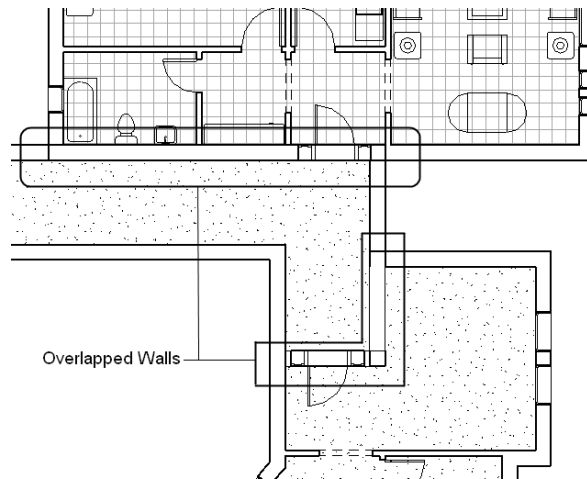
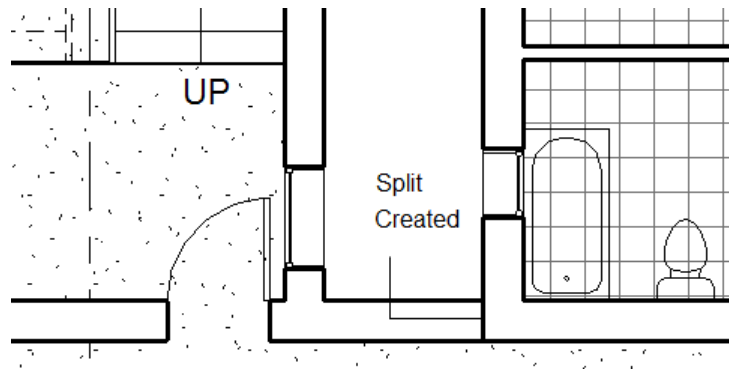

Figure 16-72 The overlapping walls
Figure 16-73 The split created to separate the walls
- b. Group the projects and use the modifying tools to create the *Apartment Cluster* project, refer to Figure 16-73.
16. Choose the **Modify** button from the **Select** panel and zoom into the area that shows the overlapping walls, refer to Figure 16-72. Next, select the wall of the *Elevator and Stair Lobby* project that overlaps with the wall of the *Apartment 1* project and use the drag control to stretch the walls to their intersection. Similarly, select the other wall of the *Elevator and Stair Lobby* project that intersects with the wall of *Apartment 2* project and use the drag control to stretch it to the intersection point. Use the **Split Element** tool to create a split in the wall that is common to the *Elevator and Stair Lobby* project and the *Apartment 1* project, as shown in Figure 16-73.